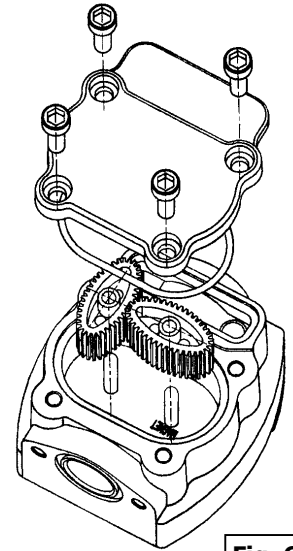

Fig. 6
4. Replace the gears, then reattach the cover as shown in figure 6.